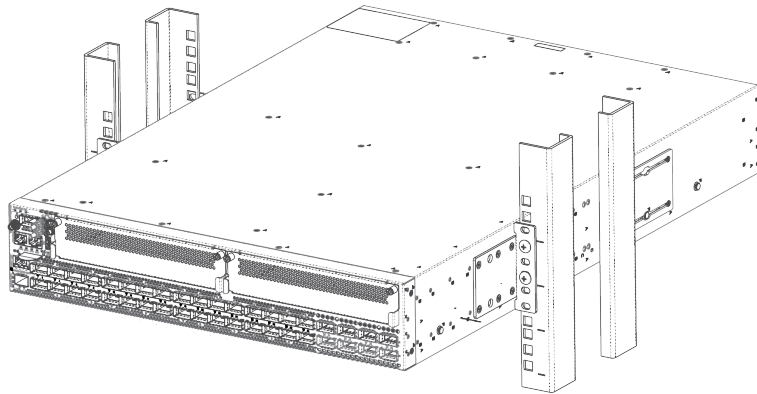

Figure 25: Mid-Mount: Attaching Short Mounting Brackets
- Figure 25 shows a mid-mount configuration using a short mounting bracket.